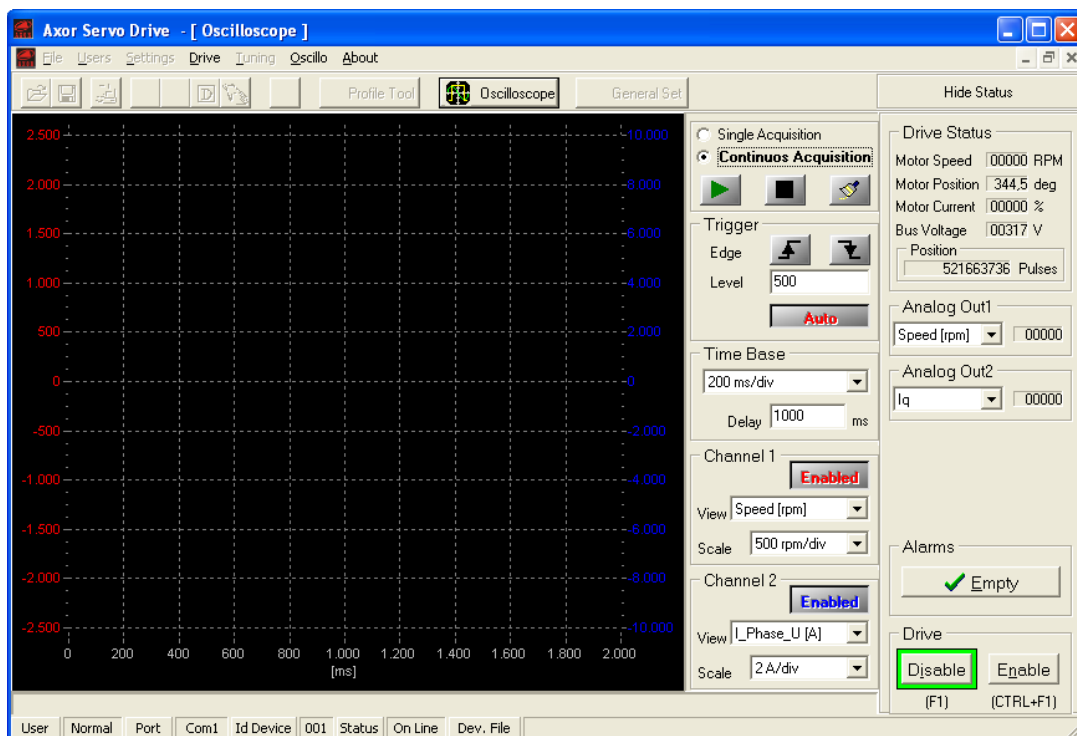

Fig. 6: Parameter settings in the Oscilloscope window
- 5- In the Oscilloscope window set the *initial parameters* (see Fig.6):